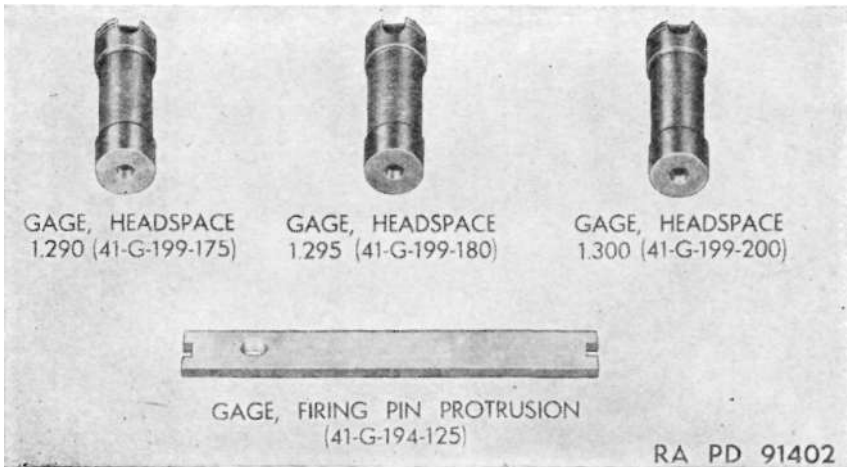

Figure 16. Carabines, cal. .30 M2 and M3 — Gages.
m. GAUGE, HEADSPACE, 1.290 41-G-199-175, GAUGE HEADSPACE 1.300 41-G-199-200 (fig. 16). These gauges are used to check the headspace in carbines.
n. GAUGE FIRING PIN PROTRUSION 41-G-194-125 (fig. 16). The firing pin protrusion gauge is a double end gauge with a GO notch on one end and NO GO notch on the other.
p. GAUGE, HEADSPACE 1.295 41-G-199-180 (fig. 16). This gauge is provided for fifth echelon maintenance in addition to the gauges used in third and fourth echelon maintenance.